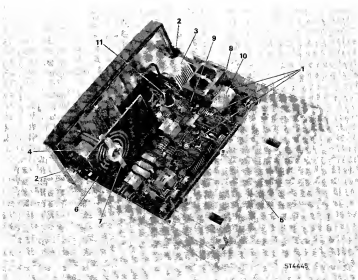

Fig. 5.2. Removing the bottom cover
Removing the bottom cover (Fig. 5.2.)
- Remove the three fixing screws which attach the printed circuit board to the bottom cover (Fig. 5.2. item 1)
- Bend out the two hooks of the front plate (Fig. 5.2. item 2).
- Disconnect the flexible print from the connector X1700 (Fig. 5.2. item 3).
- Disconnect X1702 (Fig. 5.2. item 4).